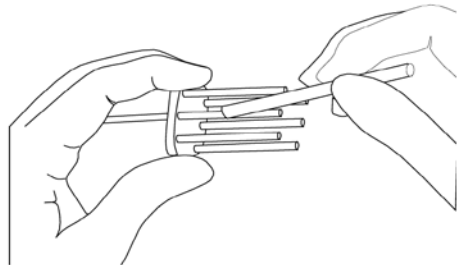

Figure F.2.3c:
- **125 μ l, 30 μ l, 12.5 μ l Pipettes:** Spread the lubricant directly onto the pistons, approximately 0.5 inches (*approx. 1.3 cm*) from the bottom of each piston (*see Figure F.2.3c*)